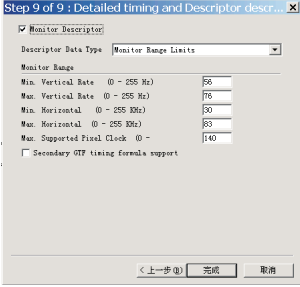

Fig. 43
- Click Next , bring up Fig. 43.